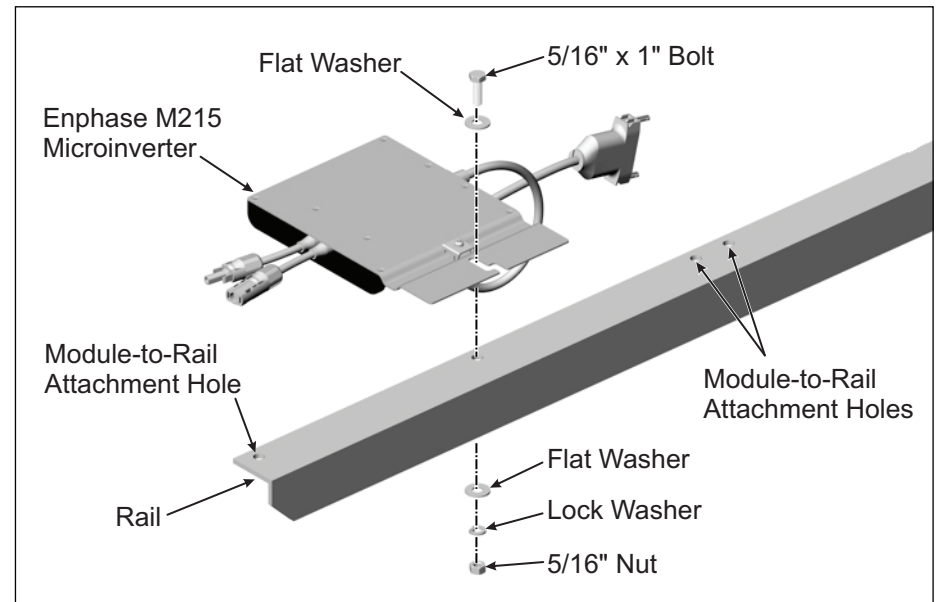

Figure 3: Attaching Microinverter to Rail
- B. Attach the Inverter to the Rail and tighten securely. (See Figure 3)